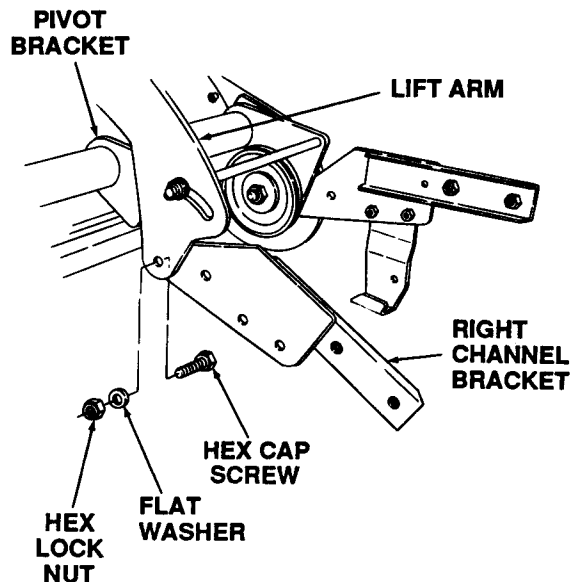

Figure 7-52. Install Right Channel Bracket.
3. Position the right channel bracket (6, Fig. 7-45) between the lift arm and right side of the tiller pivot bracket as shown in Figure 7-52. Align the holes and insert the hex cap screw (24) through the brackets and lift arm. Secure with the flat washer (27) and hex lock nut (28).